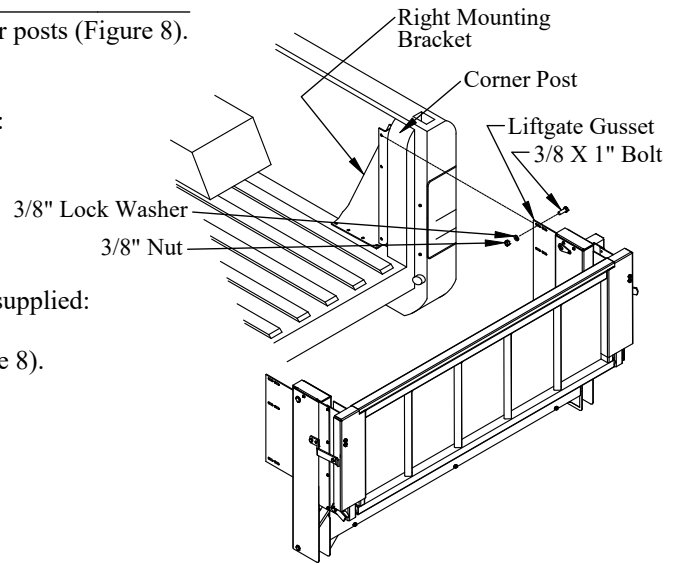

Figure 8: Mounting bracket and liftgate.
1. **Position** the mounting brackets into the truck bed in front of the corner posts (Figure 8).
- (3) 3/8"x1" hex head bolts on the bracket-side (Figure 8).
- (3) 3/8" lock washers, and (3) 3/8" nuts on the gusset-side (Figure 8).
7. **Drill** two (2) 3/8" holes into the truck bed floor using two holes in the bracket as a guide.